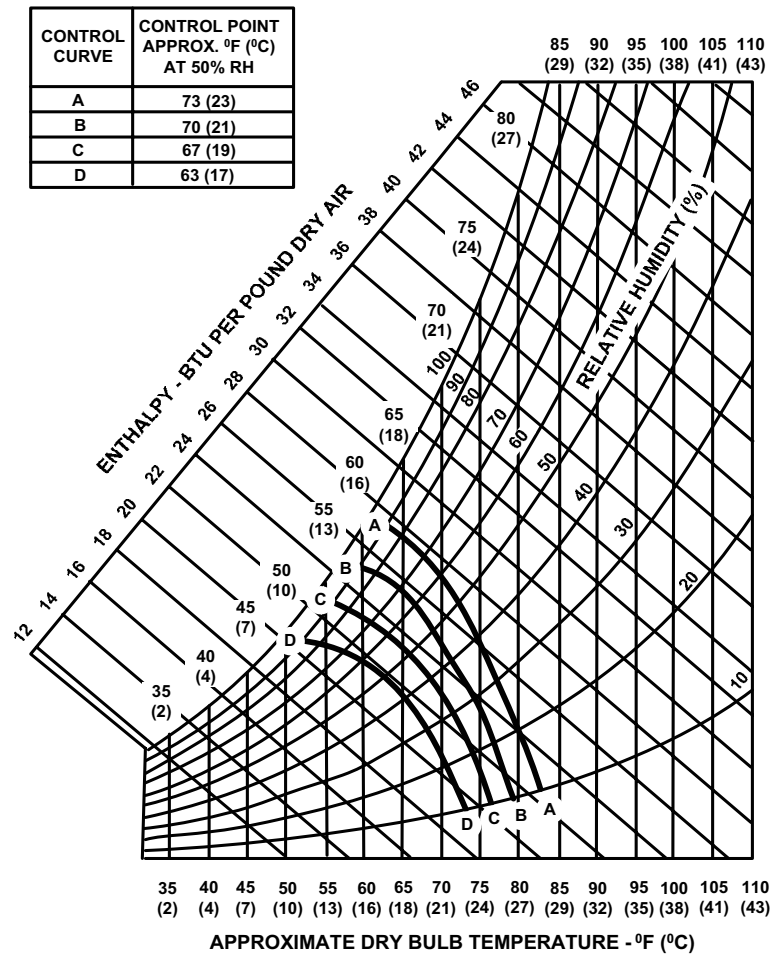

FIGURE 23 - ENTHALPY SET POINT CHART
The enthalpy set point may now be set by selecting the desired set point shown in the Enthalpy Set Point Adjustment Figure 23. Adjust as follows:
- For a single enthalpy operation carefully turn the set point adjusting screw (found on the damper control module) to the "A", "B", "C" or "D" setting corresponding to the lettered curve of the Enthalpy Set Point Adjustment Figure 23.